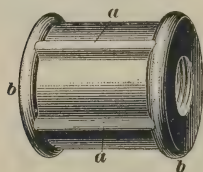

FIG. 33
**47.** A **right-and-left coupling** is shown in Fig. 33. It is used for coupling up pipe lengths where final joints are to be made and where the pipes cannot be turned. It consists of a sleeve tapped with a right-hand thread in one end and a left-hand thread in the other end.